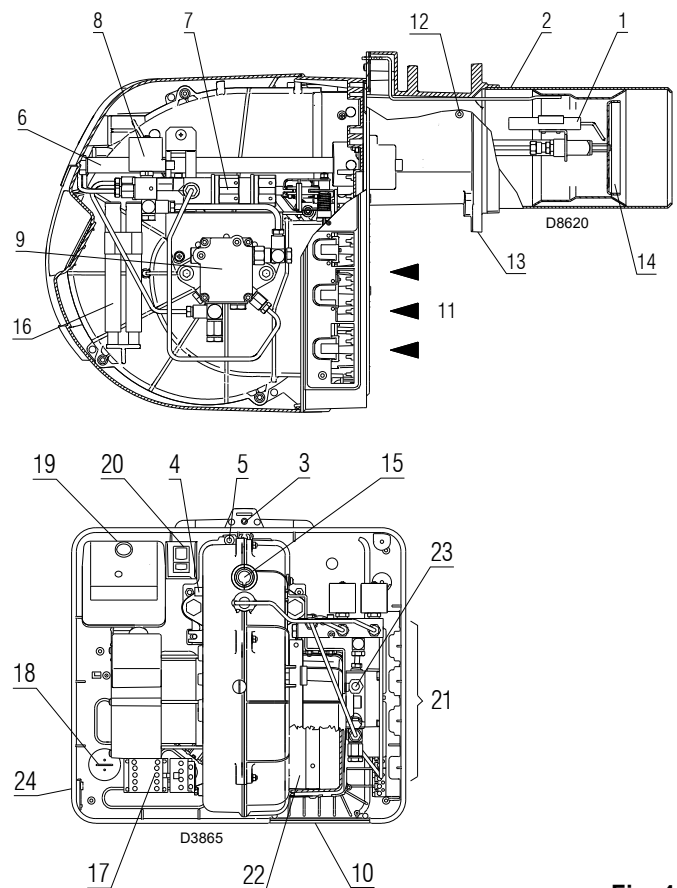

Fig. 4
Control box lockout: if the control box 19)(Fig. 4) pushbutton (red led) lights up, it indicates that the burner is in lockout.
Motor lockout (RL 44 MZ three-phase): release by pressing the pushbutton on thermal relay 17)(Fig. 4).
- 2 - Extensions 16)(Fig. 4 to page 11) for slide bars 6) (for model with 351 mm blast tube)